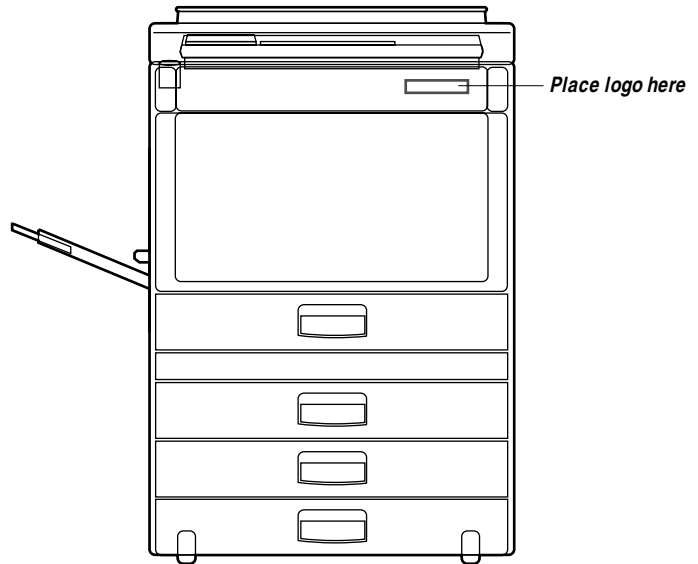

Figure 3-21 Installing the logo decal on the copier
6. *Peel the adhesive backing off the Fiery driven and Adobe PostScript logo decal and install it on the front of the copier (see Figure 3-21).*